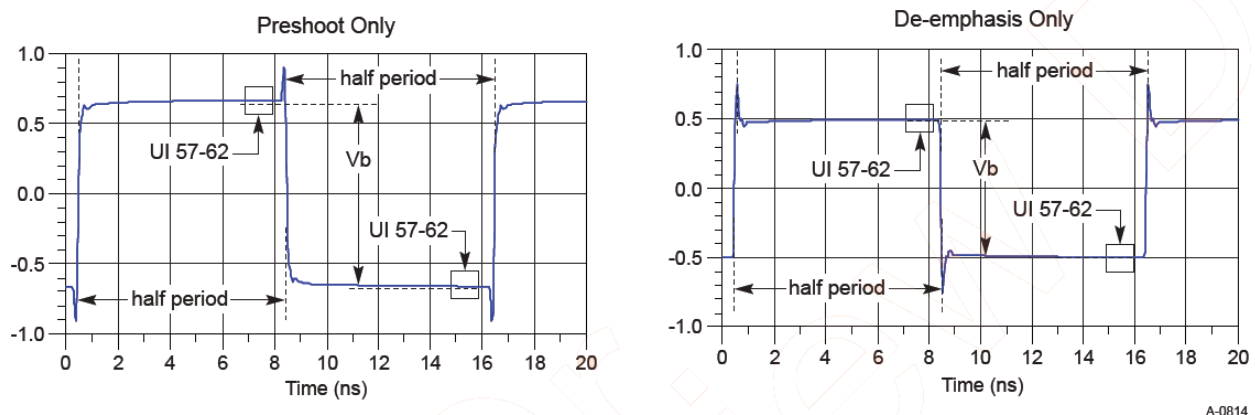

Figure 200 Waveform measurement points for preshoot and de-emphasis
8.0 GT/s, 16.0 GT/s and 32.0 GT/s PCIe signaling must support the full range of presets given in Table 8-1 (PCIe Base Specification Revision 5.0). Presets are defined in terms of ratios, relating the pre-cursor and post-cursor equalization voltages. The pre-cursor (V_c) is referred to as pre-shoot, while the post-cursor (V_b) is referred to as de-emphasis. This convention permits the specification to retain the existing 2.5 GT/s and 5.0 GT/s definitions for Tx equalization, where only de-emphasis is defined, and it allows preshoot and de-emphasis to be defined such that each is independent of the other. The tolerances in Table 8-1 (PCIe Base Specification Revision 5) also apply to 2.5 and 5.0 GT/s de-emphasis. The maximum swing, V_d , is also shown to illustrate that, when both c_{+1} and c_{-1} are nonzero, the swing of V_a does not reach the maximum as defined by V_d . The high frequency nature of PCIe signaling makes measurement of single UI pulse heights impractical. Consequently all amplitude measurements are made with low frequency waveforms as shown in Figure 200.
8.0 GT/s, 16.0 GT/s and 32.0 GT/s PCIe signaling must support the full range of presets given in Table 8-1 (PCIe Base Specification Revision 5.0). Presets are defined in terms of ratios, relating the pre-cursor (V_c) is referred to as pre-shoot, while the post-cursor (V_b) is referred to as de-emphasis. This convention permits the specification to retain the existing 2.5 GT/s and 5.0 GT/s definitions for Tx equalization, where only de-emphasis is defined, and it allows preshoot and de-emphasis to be defined such that each is independent of the other. The tolerances in Table 8-1 (PCIe Base Specification Revision 5) also apply to 2.5 and 5.0 GT/s de-emphasis. The maximum swing, V_d , is also shown to illustrate that, when both c_{+1} and c_{-1} are nonzero, the swing of V_a does not reach the maximum as defined by V_d . The high frequency nature of PCIe signaling makes measurement of single UI pulse heights impractical. Consequently all amplitude measurements are made with low frequency waveforms as shown in Figure 200.